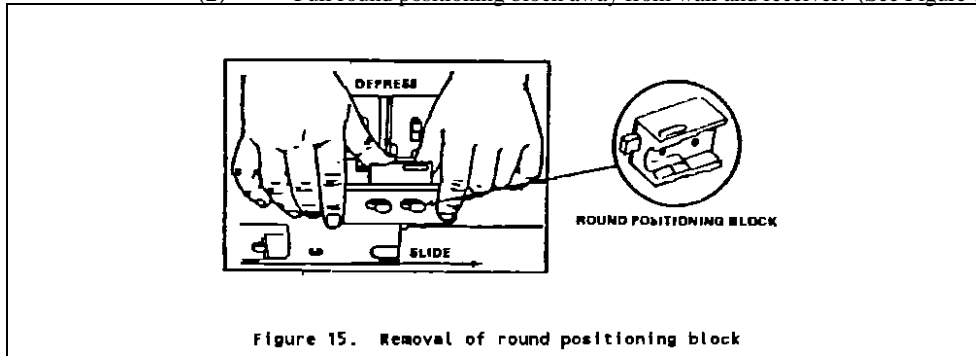

Figure 14. Removal of round positioning block
- (1) Depress round positioning block and slide it toward muzzle end of gun.
- (2) Pull round positioning block away from wall and receiver. (See Figure 14.)